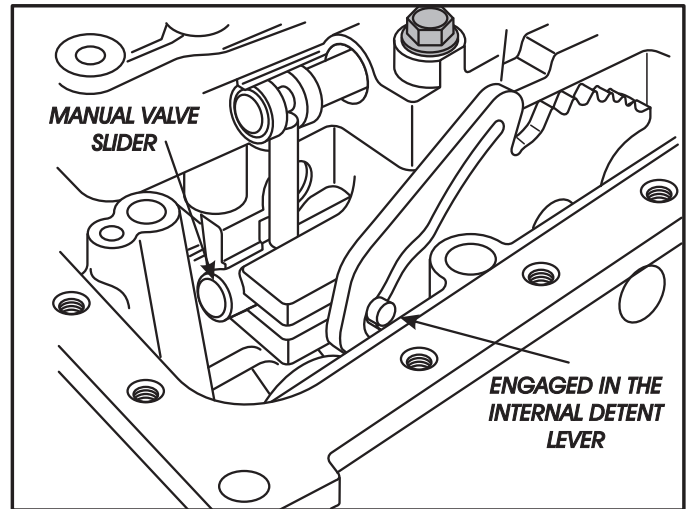

Figure 221
83. Install completed valve body, while inserting manual valve slider into the inside detent lever, as shown in Figure 221.